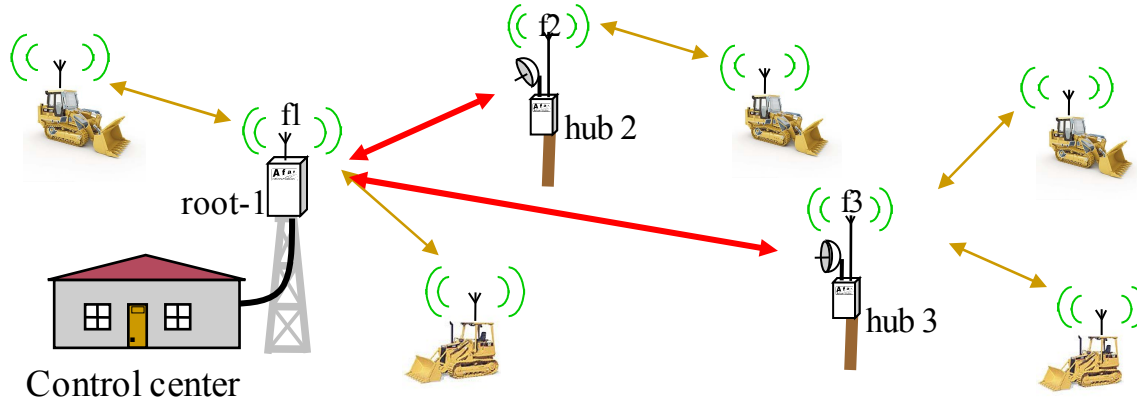

Figure 2.3 - Roaming vehicles attaching to any of three access points
- Using the Tree topology you can use the fixed nodes in the tree (root and branches) to provide the backbone network. Those same radios can also be the access points to the mobile leaf nodes. This approach depicted in Figure 2.3.